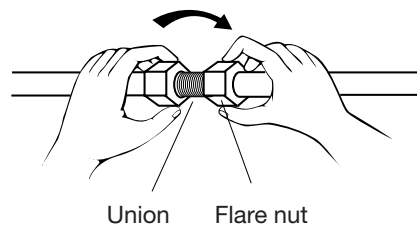

Figure 6
3. For proper connection, align the union tube and flare tube straight with each other, then screw in the flare nut lightly at first to obtain a smooth match (Figure 6).